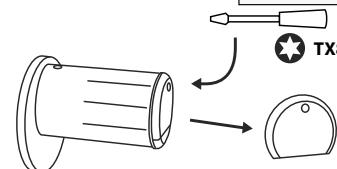
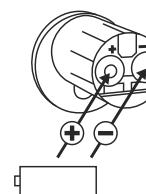

Fig. 2
Fig. 3
- ① Using the TX8 screwdriver provided, loosen the screw on the inner side of the door at the front end of the knob and open the cover. The screw can only be unscrewed up to the opening of the cover and will not fall out. (Fig. 2).
- ② Remove the old batteries and dispose of them appropriately.
- ③ Insert two new batteries. Make sure that the polarity is correct according to the drawing (Fig. 3).